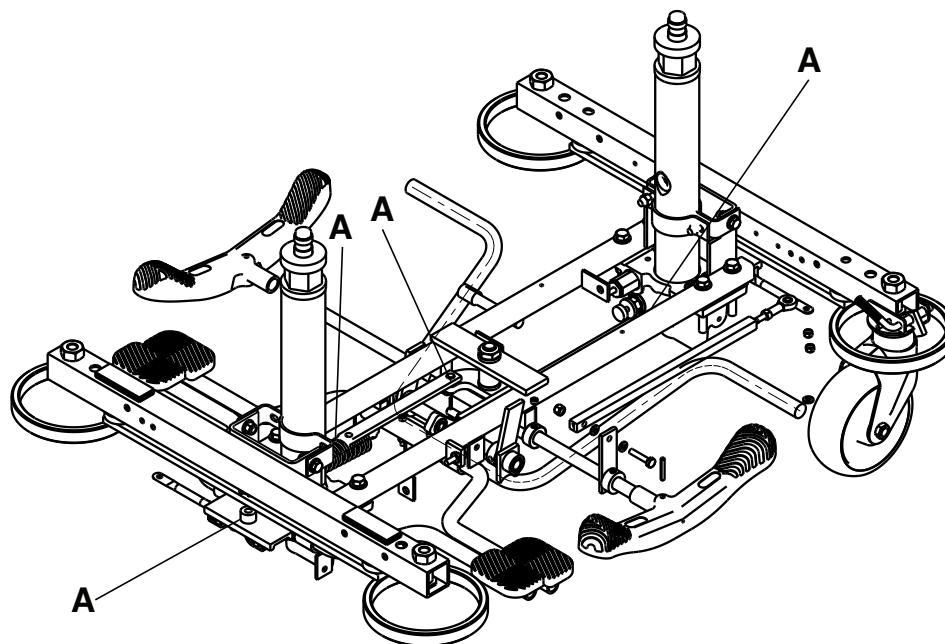

Figure 8 – Base lubrication points
Grease areas as indicated (A) (Figure 8).